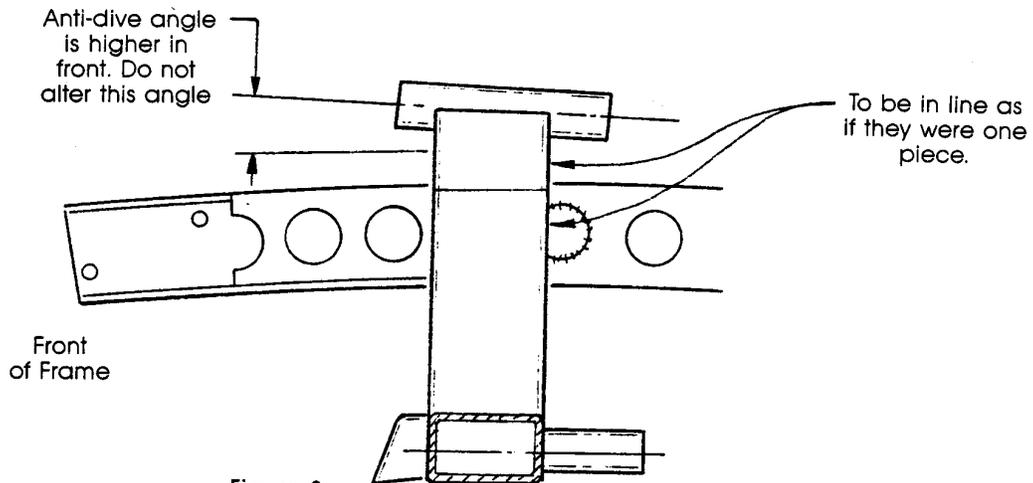
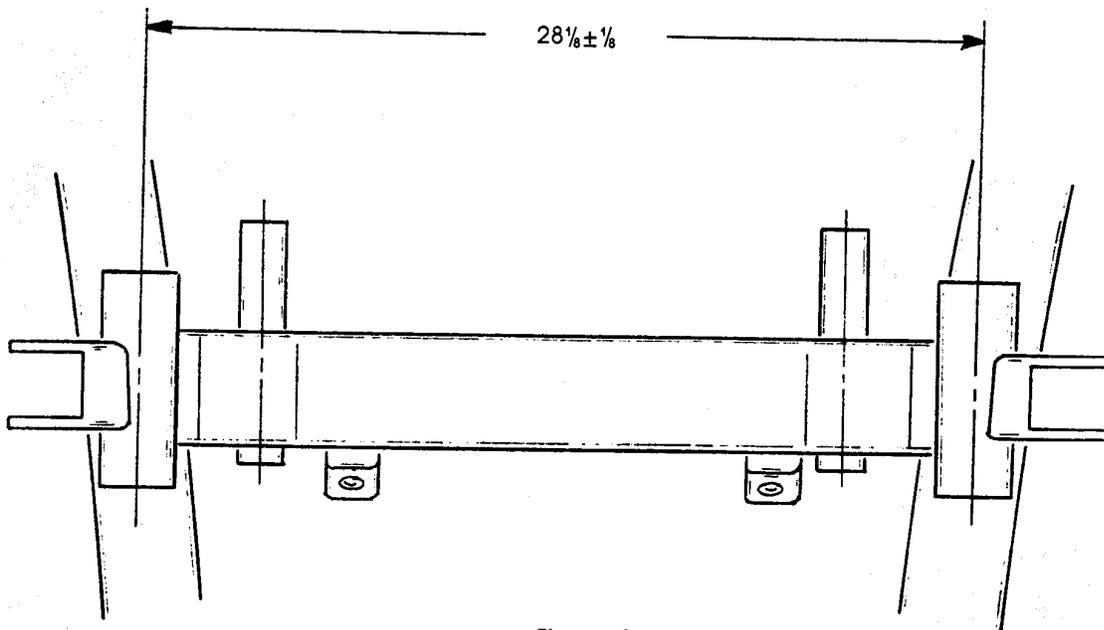

Figure 3
Figure 4
6. The upper control arm mounts are next. See Figure 3. They are positioned with the anti-dive angle of the upper arms higher in front, as shown. The upper mount should line up with the main crossmember and should contact the entire top ends of the crossmember. If the upper mounts do not fit up to the crossmember, grind the edges of the upper mounts where they sit on the frame. If there is a gap between the frame and the upper mounts, grind the edge where the upper mounts contact the crossmember. Care must be taken, however, to grind an equal amount off the entire edge so the angle of the upper mounts is not changed. Now check the dimension across the upper arm cross tubes. That dimension should be 28-1/8" ± 1/8". It is more important that the tubes are parallel and square as viewed from the top than exactly that dimension. See Figure 4. Again, cross measuring, squareness and accuracy cannot be overstressed at this stage, as the closer the installation is at this point, the easier your final wheel alignment will be. Good, strong welds are also required here, as the weight of the car hangs on the upper coil-over mounts.